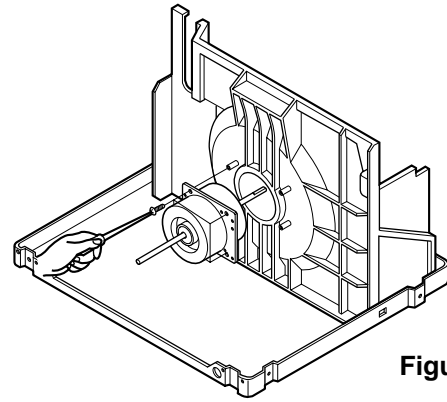

Figure 26
4. Remove the 4 screws that fasten the motor from the air guide. (See Figure 26)
6. Re-install the components by referring to the removal procedure, above.(See Figure 26)